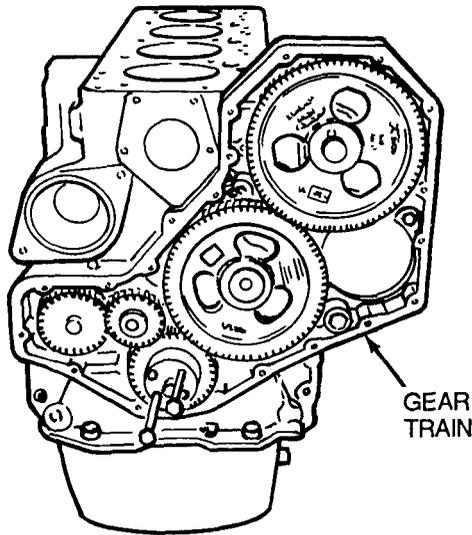

Figure 6-3
1. Using clean oil, lubricate front gear train (Figure 6-3).